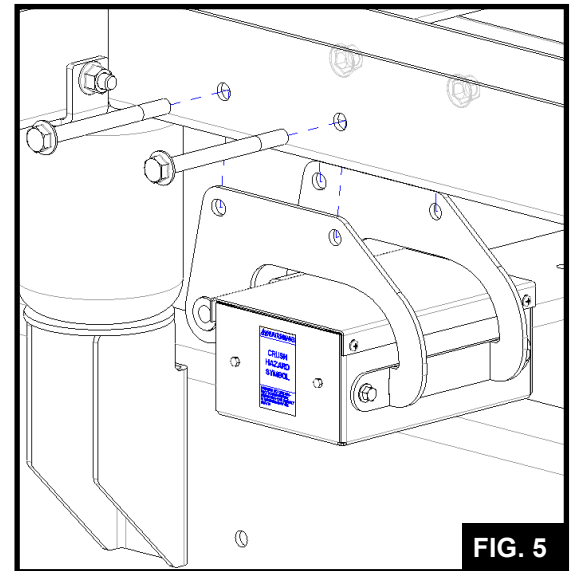

FIG. 5
Attach the cab bracket with the control box on the passenger side of the cab reusing the (2) M12 bolts removed in step 6.3 and (2) M12 flange nuts provided (FIG.5).